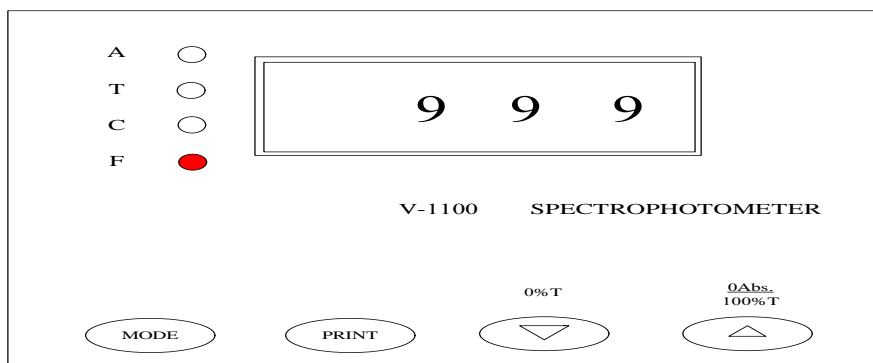
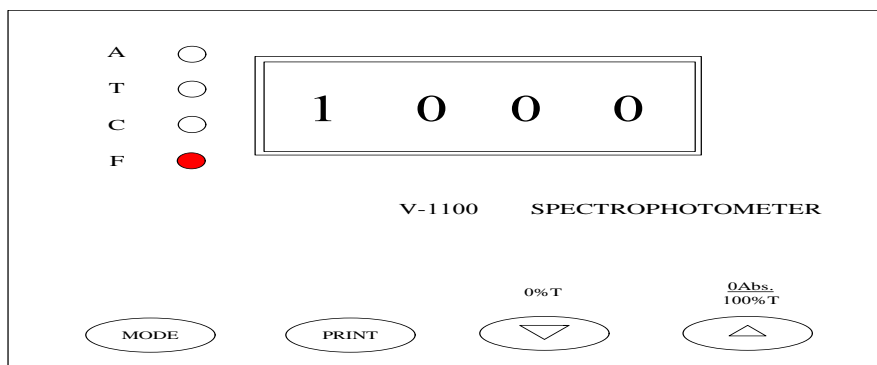

Fig.1-12
Fig.1-13
- b. To be used as the ascending key (effective only in F mode). Press the key and the F value will increase by 1(Fig.1-12 & Fig.1-13). A long press will speed up the increase. When the F value reaches 1999, another press of the key will change it to 0. And still another press it will increase by 1.